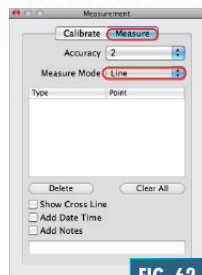

FIG. 62
2. Click the "Measure" button. Change the measure mode to "Angle." (Fig. 62)